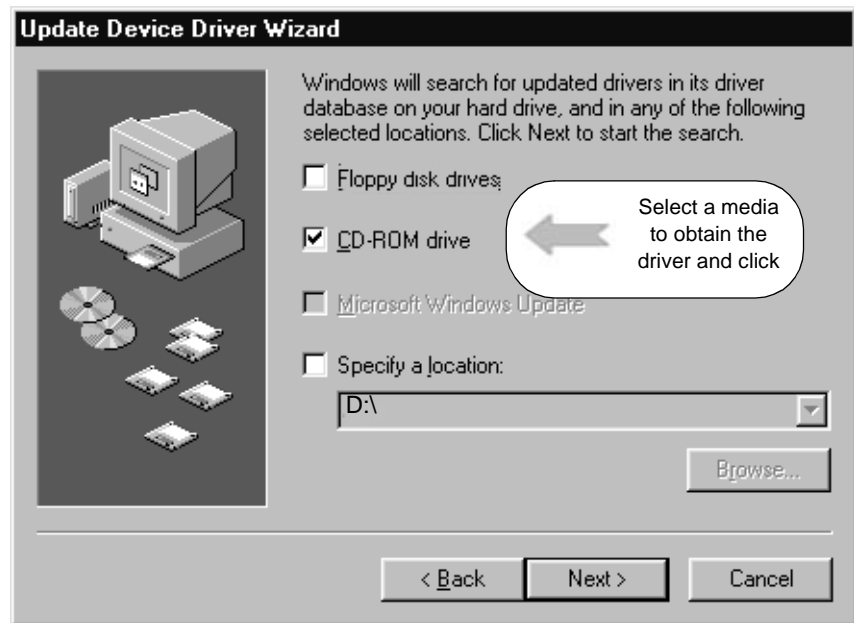

FIGURE 30. Select Standard Bridge Driver and Click Next
Step 3. Select a location to search for the driver, as shown in Figure 30.